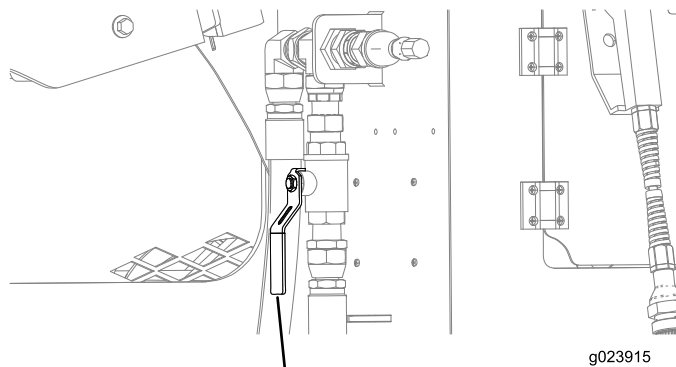

Figure 161
B. Open the valve near the rear compartment (Figure 161).